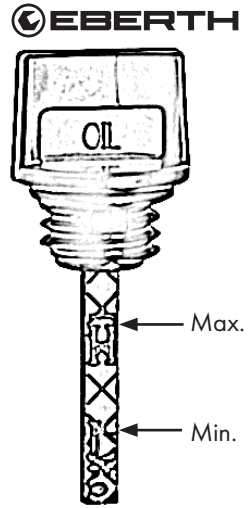

Figure 7
- Read the oil level, see also Fig. 7.
There must be an oil film between the upper and lower markings. If there is no oil film, the oil level is too low, Fig. 7. Top up with more oil. H-High stands for maximum. L-Low stands for minimum.